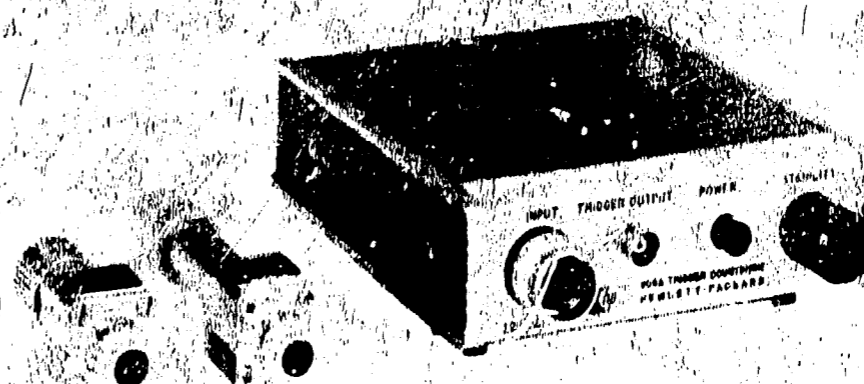

Figure 1. Trigger Countdown, Model 1104A/1106A/1108A
2. The Model 1104A is used with either the Model 1106A or the Model 1108A Tunnel Diode Mount (Figure 1) to form a Trigger Countdown to synchronize the time base of sampling oscilloscopes with displayed signals in the microwave region. Specifications are listed in Tables 1 and 2.